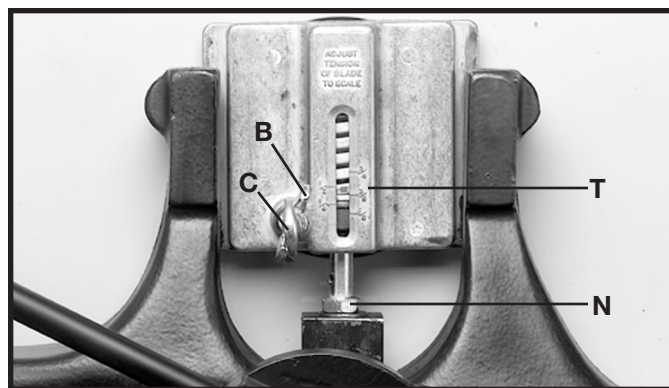
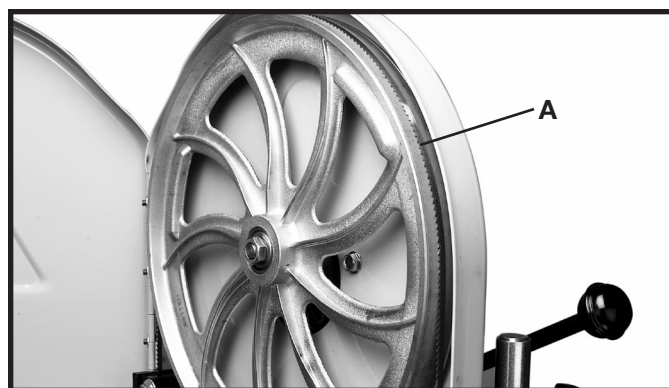

Fig. 51
Fig. 52
5. The band saw blade tension can be fine tuned by turning adjustment nut (N) Fig. 51, while the blade is tensioned.
6. A series of graduations is located on the back of the upper wheel slide bracket (T) Fig. 51. These graduations indicate the proper tension for various widths of blades.
After applying tension to the blade, rotate the wheels slowly forward by hand and observe the blade's movement. The blade (A) Fig. 52 should travel in the center of the upper tire. If the blade creeps toward the front edge, loosen the wing nut (B) Fig. 51, and turn the thumb screw (C) clockwise. This action draws the blade toward the center of the tire. If the blade creeps toward the back edge, turn the thumb screw in the opposite direction. Adjust the thumb screw (C) Fig. 51 only a fraction of a turn each time.
After the blade is tracking in the center of the tires, tighten the wing nut (B) Fig. 51.